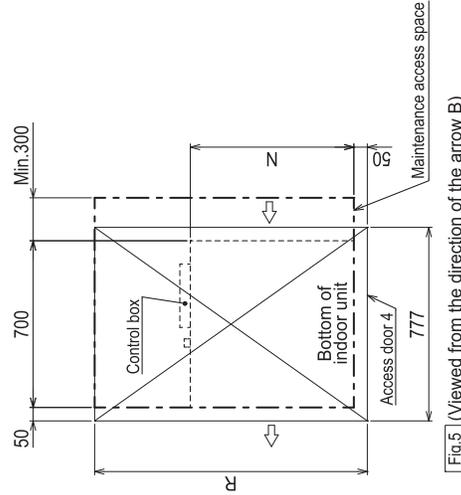

Fig.5 (Viewed from the direction of the arrow B)
- Create access door 4 below the control box and the unit as shown in Fig.5.